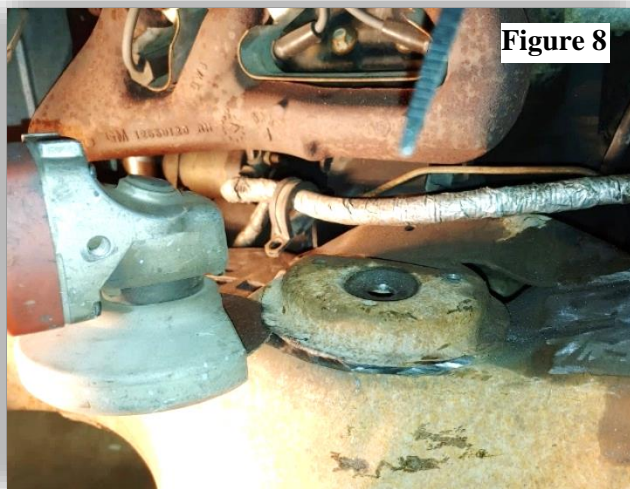

Figure 8
23. Using a cutoff wheel, cut the circular spring perch off flush with the frame. The spring perch is easier to cut off when sectioned. **(Figures 8 & 9)**